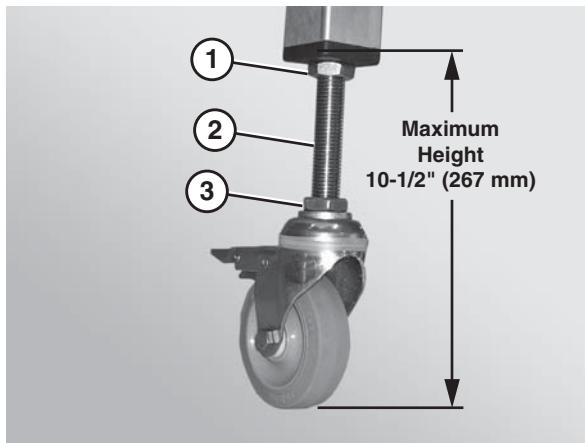

Figure 21
1. Loosen the upper nut (**Figure 21, item 1**) on the caster stem (**Figure 21, item 2**).
2. Rotate the lower nut (**Figure 21, item 3**) on the caster stem (**Figure 21, item 2**) to raise or lower the stand to the desired height.